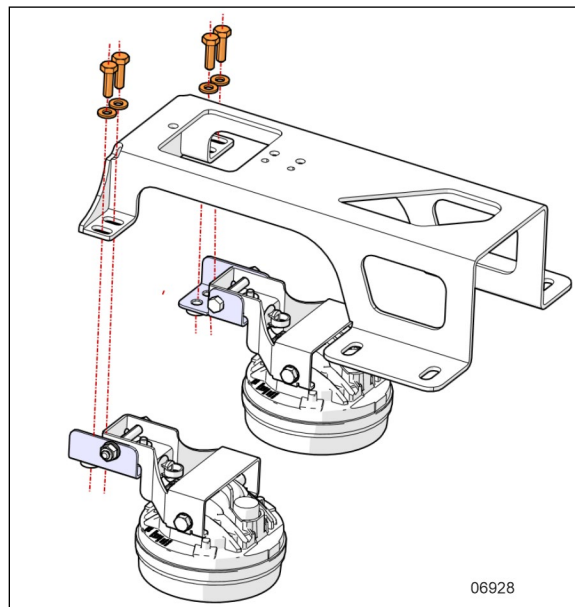

FIGURE 113: FOG LIGHT SUBASSEMBLY DISMOUNT
3. Remove the screws that supports the fog light subassembly on the bumper support (Figure 113).